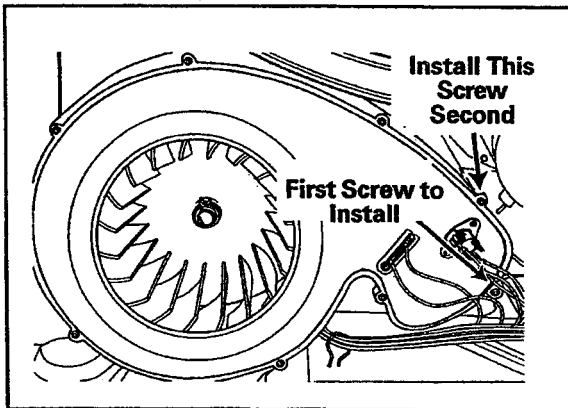

Figure 2-88
3. Install the first screw closest to the exhaust duct (right-most screw, *Figure 2-88*).